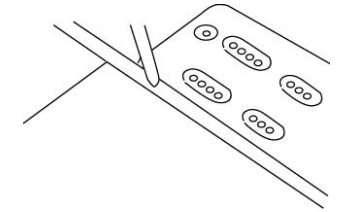

Figure 12
4.3) Slide in the CD-ROM, screw on the 3.5" bracket and frame. (See Figure 12)